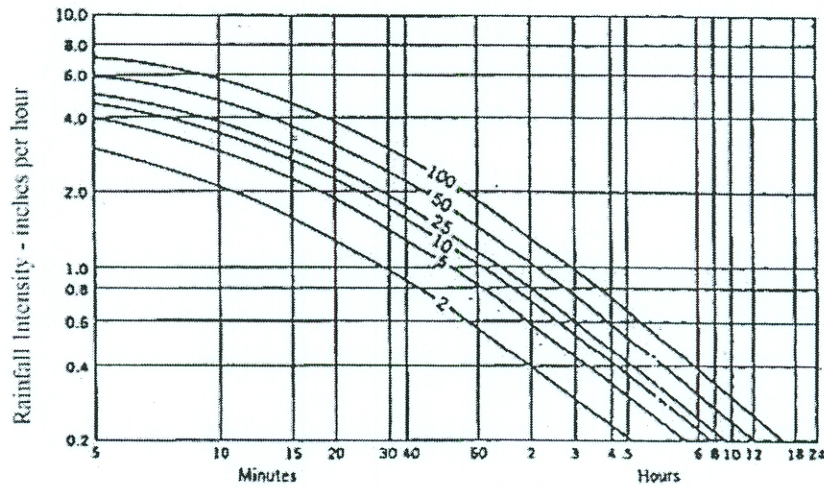

Figure S1: IDF curve for a watershed
- (c) A catchment area 52.8 km2 in City Y was divided into a few characteristic as shown in Table S1. Based on Figure S1, estimate the peakflow for 25 and 50 year of return period design. Assume the length of drainage is 9.5 km, drainage velocity 2.3 m/s and the average slope, 1.2 %. Use the modified rational method.